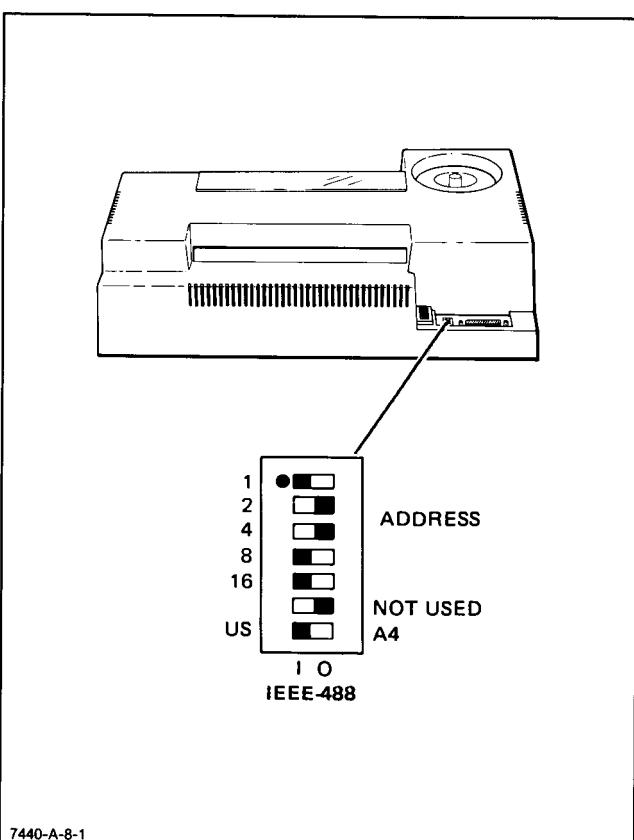

Figure 3-3. HP-IB Parallel Interface (Option 002)
**3-29. FUNCTIONS.** See Figure 3-3 for the functions reserved to each rear panel assembly switch on the Option 002 plotter.